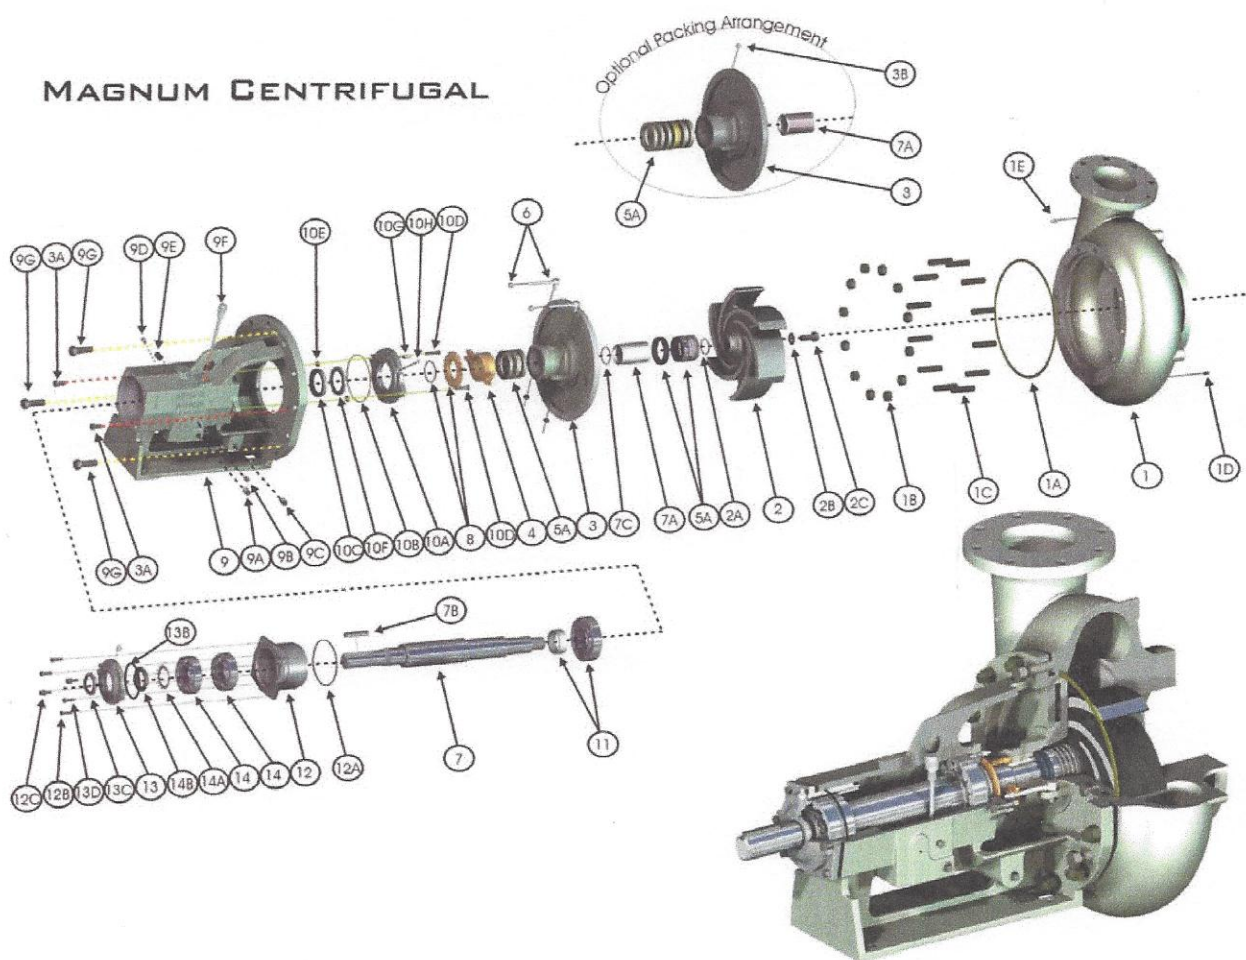

Figure 5
Numbers following part name refer to the part as shown on the cross-sectional drawing (Fig. 5, Pg. 21).
10. Thread the impeller (2) onto the shaft (7). Be sure that the spring engages in the retainer on the impeller. Tighten to approximately 160 ft/lb torque.
11. Back the through bolts (12B) out approximately 1/4". Tighten the jam bolts (12B) until a clearance of 0.015" – 0.020" between the back of the impeller (2) and stuffing box (3) is obtained. **Do not move the impeller (2) toward the stuffing box and then back out.** This will cause improper compression of the seal bellows. **If the impeller is moved out by mistake, the entire seal rotary unit must be removed and reinstalled on the sleeve.** Alternately tighten the through bolts and jam bolts making sure that the clearance set above is maintained. Tighten the jam nuts and recheck the clearance.
12. Install casing gasket (1A). Hold it in place with grease if necessary. Apply a light coat of anti-seize compound on the 14 1/8" diameter of the stuffing box cover. Install casing (1) on the frame using studs (1C) and nuts (1B). Put a small quantity of anti-seize lubricant on the threads on the nut end of the studs. Tighten nuts to 140 ft/lb torque using a crisscross tightening pattern.
13. Grease all three shaft packing rings (5). Insert all packing rings alternating the splits from top to bottom starting with the split on the first ring at the bottom.
14. Attach gland bolts (6) to pump with nuts (6A). Start the gland bolt nuts. With the packing gland (4) in position, swing the gland bolts into place. Tighten gland bolt nuts lightly against the packing.
**G. ASSEMBLY FIGURES 5 THRU 9**
#### G. ASSEMBLY FIGURES 5 THRU 9(Continued)...
**G. ASSEMBLY FIGURES 5 THRU 9(Continued)...**